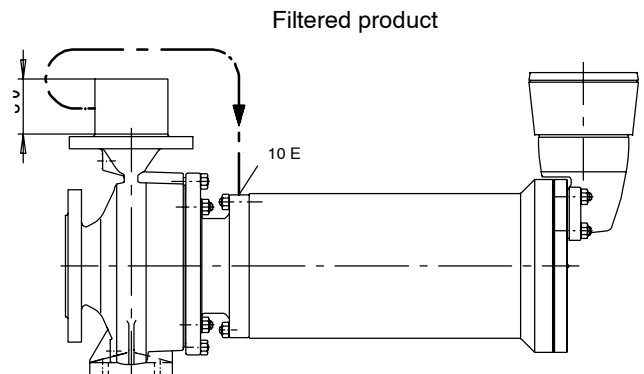
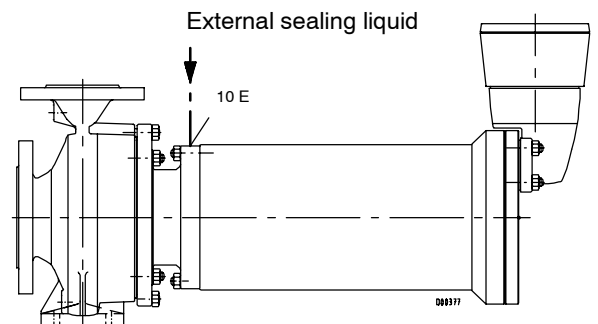

Fig. 2 Sealing with filtered product
Fig. 3 Sealing with external liquid
- **Main flow filter** (see fig. 2)
For solids-laden products, connection 10 E can be fed with pumped product passed through a self-cleaning main flow filter (fig. 2) or with an external sealing liquid (fig. 3), thus preventing contaminations from entering the rotor chamber. If a KSB filter is used, pump dimension h2 will increase by 60 mm. Any external sealing liquid used must be compatible with the pumped product. **It is advisable to use PTC thermistors i.e. monitoring the temperature in the stator windings, in both cases, in order to prevent motor failures caused by insufficient cooling flow.**